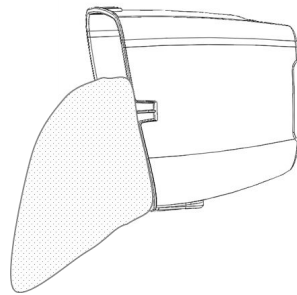

Figure 7
16. When the tank needs to be emptied, see Figure 7: